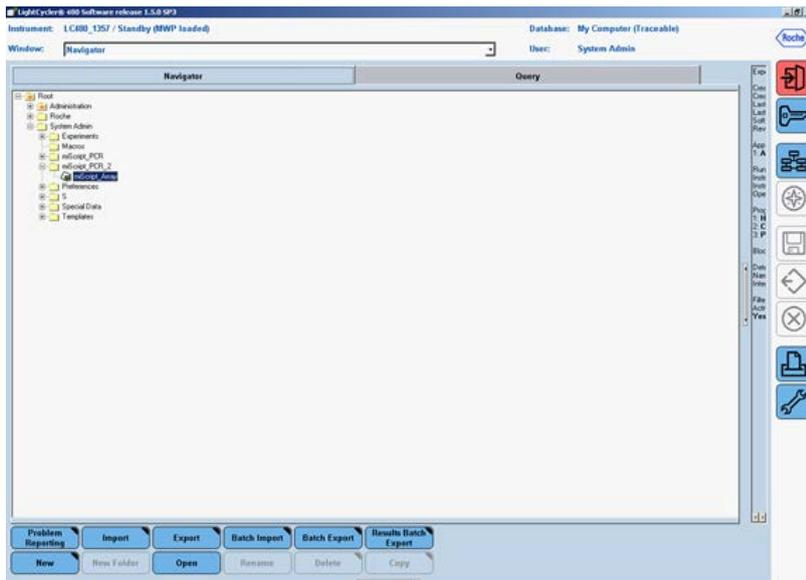

Figure 7. Opening a completed run file.
18. In the "Navigator" window (Figure 7), find and open the run file to be analyzed.